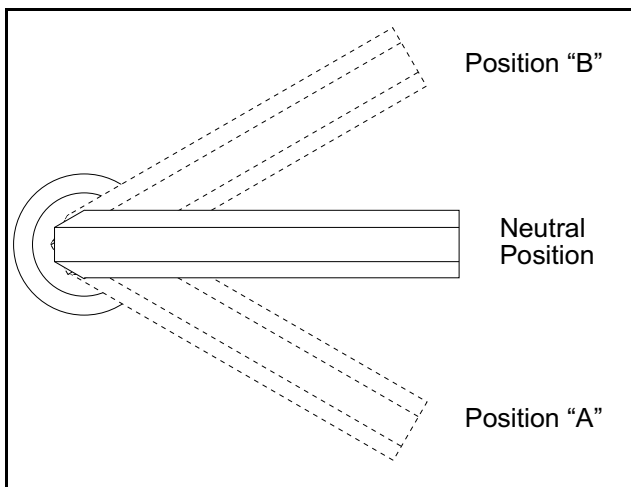

Figure 5 - 10 Pump Neutral Position
- 5) Rotate the pump neutral adjusting screw clockwise until one of the system pressures starts increasing. Note the position “A” of the hex wrench. Rotate the pump neutral adjusting screw counter-clockwise until the other system pressure increases in the other gauge. Note the position “B” of the internal hex wrench. (Figure 5 - 10)